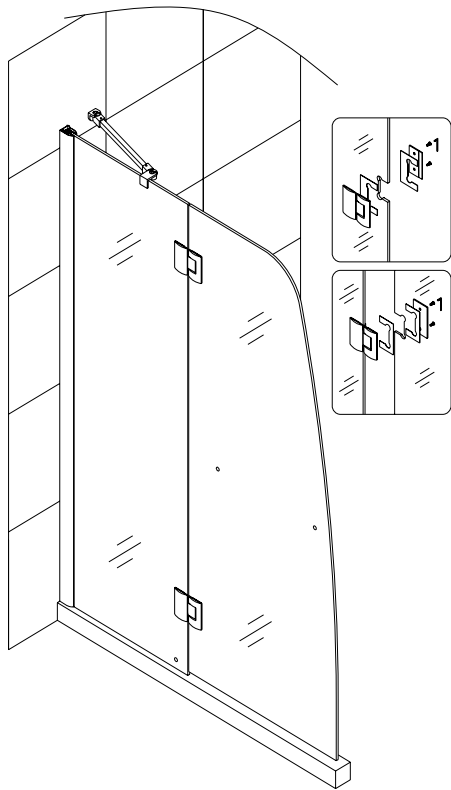

Fig. 5
4. Install the **Hinges (04)** on the stationary glass with the decorative non-screw side facing outwards. Hook the **Glass door (05)** from the inside. Perform necessary adjustment to have the top edge of the door in line with that of the stationary glass. See fig. 5 for details.